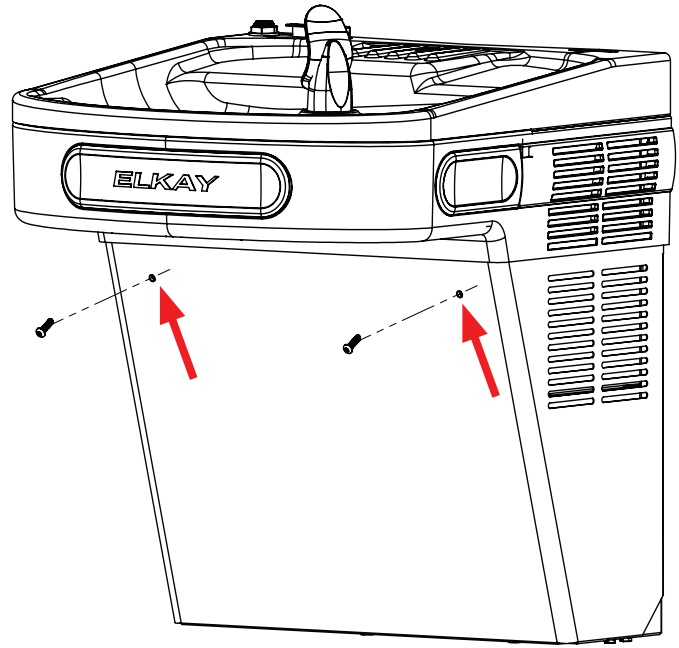

Fig. 7
- 1) Remove lower cover on refrigerated unit by removing (2) screws (see Fig 7, Pg. 6) and rotating the front panel down (see Fig B(i) to B(iv), Pg. 3) for wrapper removing instructions.